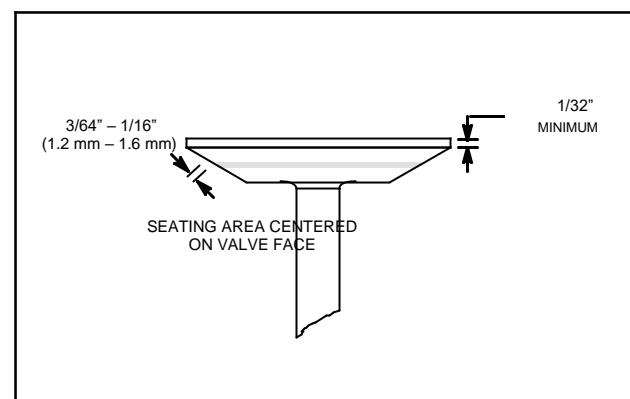
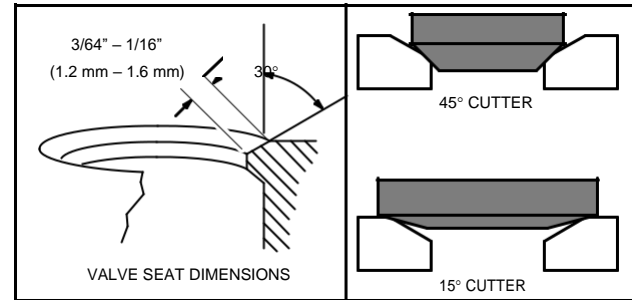

Fig. 21– Valve Dimensions
Fig. 22 – Intake Valve Seat Dimensions
See Fig. 21 for dimensions for intake and exhaust valves.
If valve seat is wider than dimension shown in Fig. 22, a narrowing cutter should be used to ensure that contact area of valve seat is centered on face of valve as shown in Fig. 21.
- a. Use a 45° cutter to narrow seat from bottom and a 15° cutter to narrow seat from top, Fig. 22.